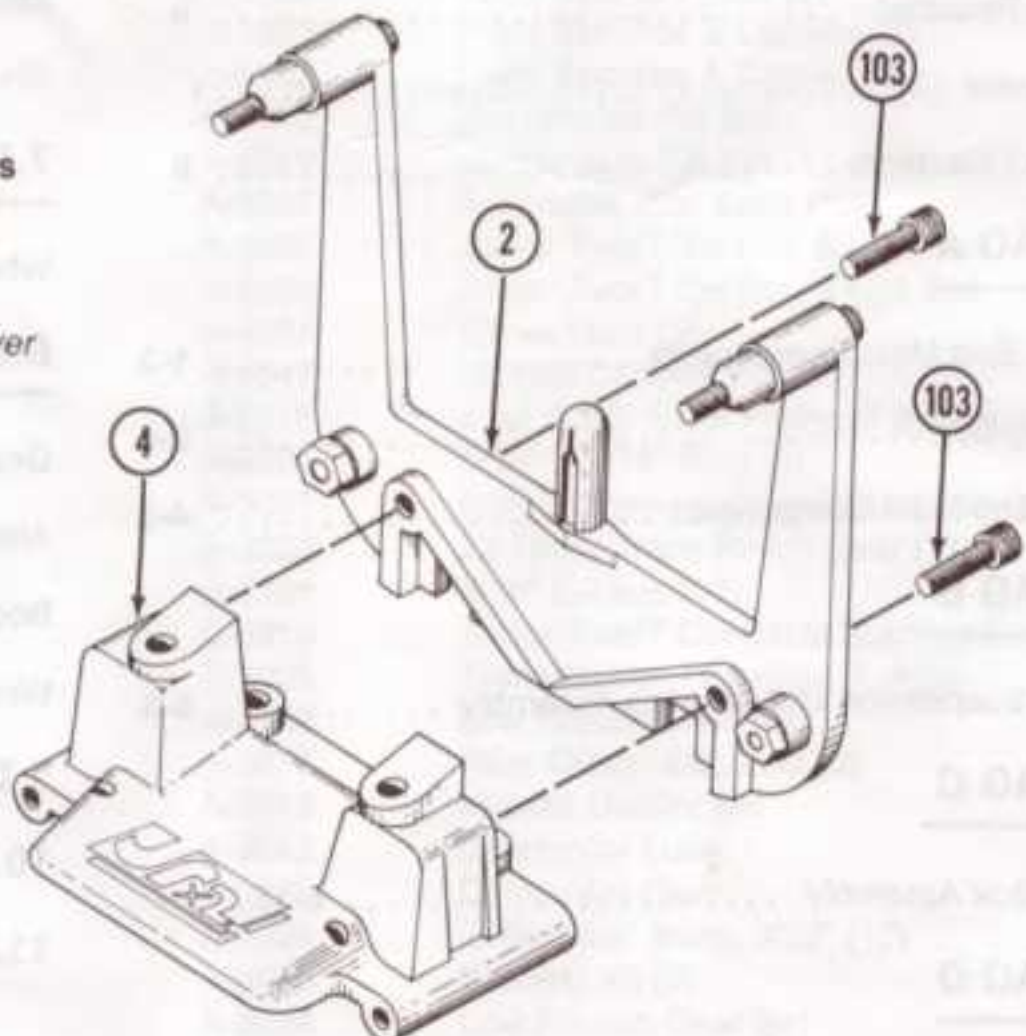

FIG. 2
3. Secure front shock tower (2) to front bulkhead (4) as shown using two 4-40 x 5/8" socket head screws (103) Fig. 2.